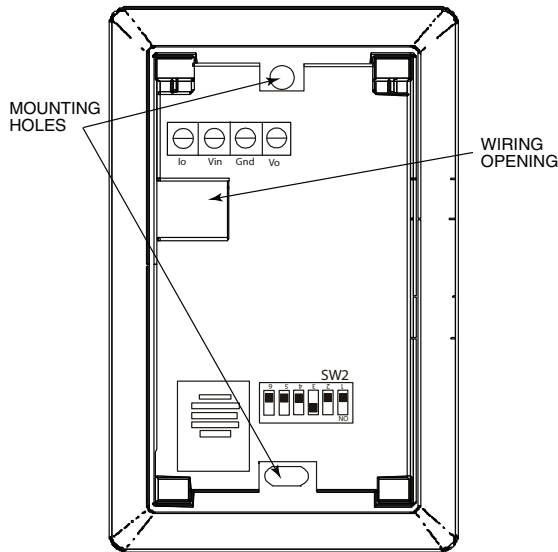

Fig. 96 — Space Relative Humidity Sensor Installation
If the sensor is installed directly on a wall, install the humidity sensor using 2 screws and 2 hollow wall anchors (field supplied). Do not over tighten screws. See Fig. 96.
1. At the sensor, remove 4 inches of the jacket from the cable. Strip 1/4 inch of insulation from each conductor. Route the cable through the wire clearance opening in the center of the sensor. See Fig. 96.